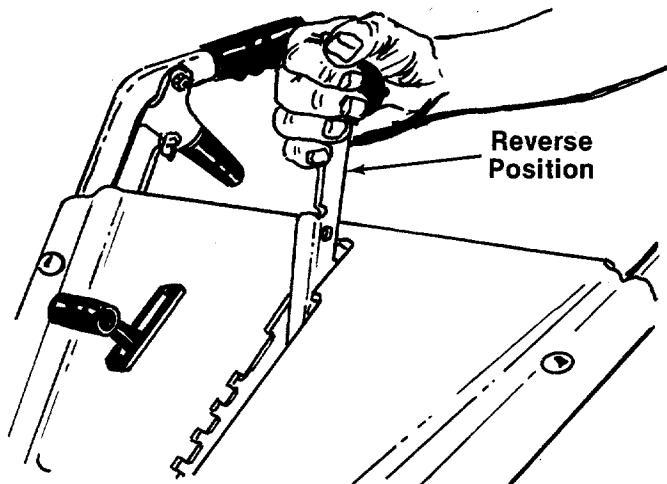

FIGURE 15.
- 2. Neutral (N)—Move lever to detent marked "N."
- 3. Reverse (R)—Raise up on the handles to lift the tines out of the ground and pull the gear shift lever back (upward) slowly to obtain reverse. Always use caution when using the reverse. When using reverse, if gear shift lever is released it will snap back into neutral (N). See figure 15.